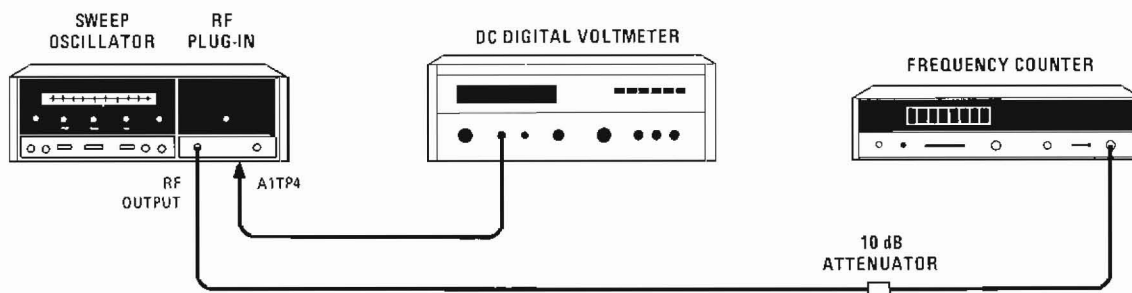

Figure 5-3. YIG Oscillator High and Low Frequency Limit Adjustment Test Setup
a. Connect equipment as shown in Figure 5-3.